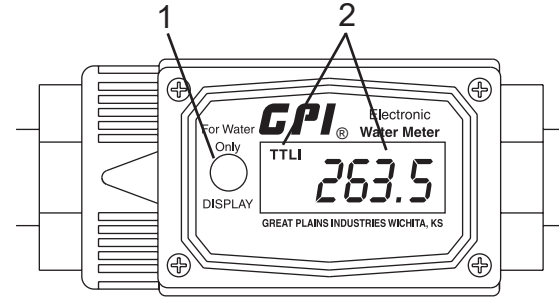

Figure 112
1. Activate the display by briefly pressing the DISPLAY button (Figure 112, Item 1).
2. Briefly press the DISPLAY button (Figure 112, Item 1) to change the total displayed - “Batch” mode (displayed as “TTL1”) or “Cumulative” mode
(displayed as “TTL2”) (Figure 112, Item 2).
3. To reset the “Batch” total display, press and hold the DISPLAY button (Figure 112, Item 1) for three seconds.